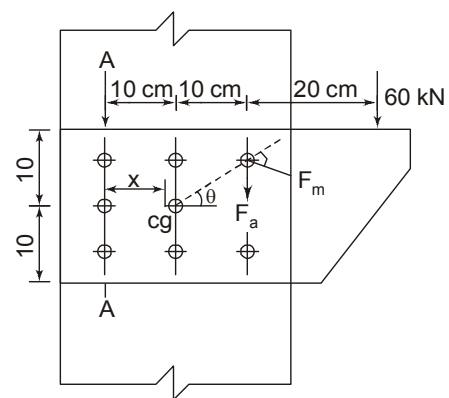

Fig. 3
9. (a) What do you understand by the term ‘curing’? Why is it essential to cure concrete? What are the various methods commonly adopted in curing? (15)
- (b) Discuss in detail “placing of concrete in cold and hot weather”. (15)
10. (a) A reinforced concrete beam 400 mm × 650 mm (effective) in section is reinforced with 3 bars of 28 mm φ. If the effective span is 5 m, find the concentrated load the beam can support at the centre. Assume M 20 concrete and Fe 250 steel (n = 13.33). (15)
- (b) Design a column to carry a load of 590 kN. Height of the column is 3.5 m effective, one side of the column is restricted to 250 mm. Use $\sigma_{cc} = 5 \text{ N/mm}^2$, $\sigma_{sc} = 190 \text{ N/mm}^2$ and 10 mm φ lateral ties. (15)
11. Design a cantilever slab to carry a superimposed load of 4188 N/m². The overhang of the slab is 1.2 m. Adopt M 20 concrete and Fe 415 steel. (30)
12. (a) What are the advantages and disadvantages of welded joints? (12)
- (b) Determine the maximum load in the rivets of the eccentric connection shown in Fig. 3. (18)